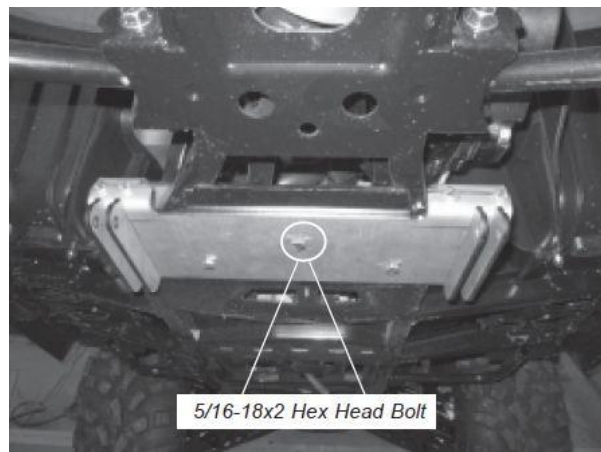

Figure 7
8. Assemble the center of the plow mounting bracket (A1) to the clamp bracket (A2) using one 5/16"-18x2" hex head bolt (C1) and one 5/16" lock washer (D2) and one 5/16"-18 lock nut (D3) (Figure 7).